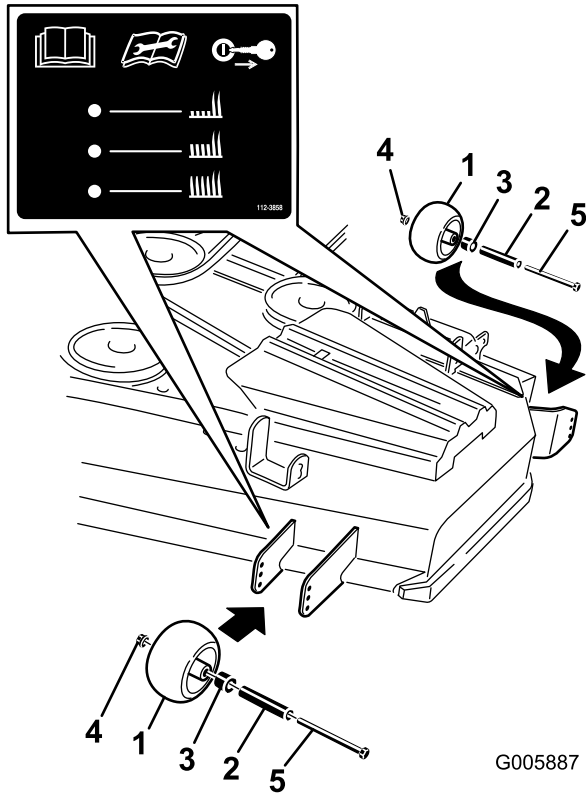
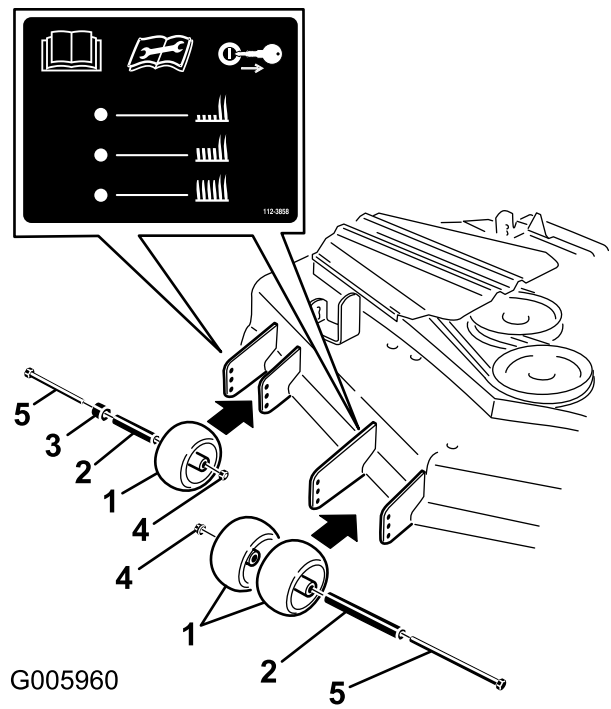

Figure 19
Figure 20
- After adjusting the height-of-cut, adjust the rollers by removing the flange nut, bushing, spacer, and bolt (Figure 19 or Figure 20).
Note: The two middle rollers will not have a spacer (Figure 19 or Figure 20).
- Torque to 40-45 ft-lb (54-61 N-m) (Figure 19 or Figure 20).